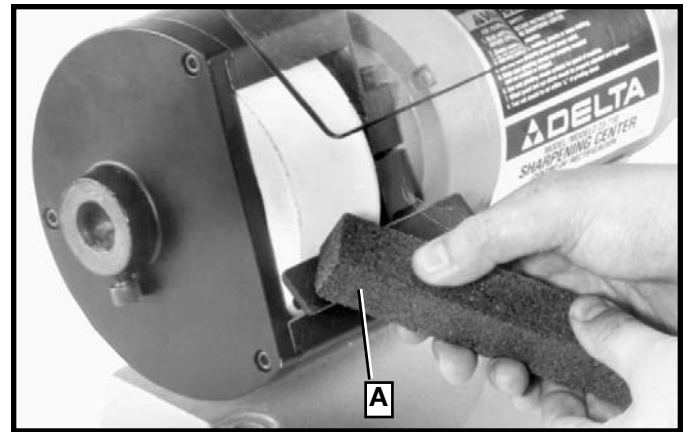

Fig. 63
A stick type dresser (A) Fig. 63, is supplied with your sharpening center to dress the dry grinding wheel. Bring the dresser stick (A) forward on the tool rest until it just touches the high point of the face of the wheel and dress the wheel by moving the dresser stick back and forth. Repeat this operation until the face of the wheel is clean and the corners of the wheel are square.